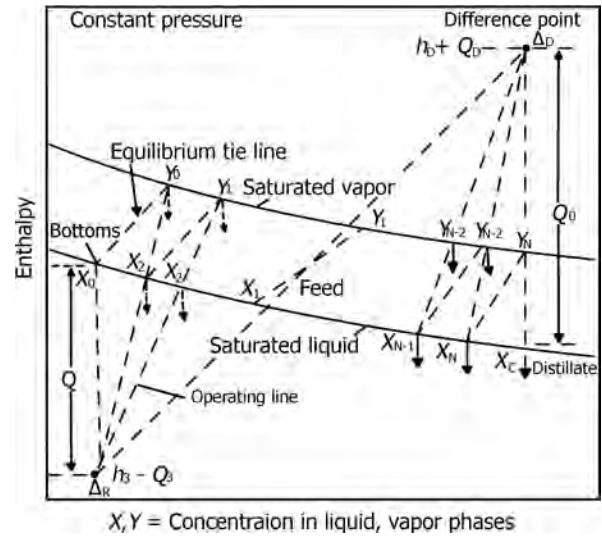

FIGURE 17.19 Enthalpy–concentration method for number of trays for binary distillation at a given reflux ratio
- Figure 17.19 illustrates the construction for number of trays by Ponchon–Savarit method for a given reflux ratio.